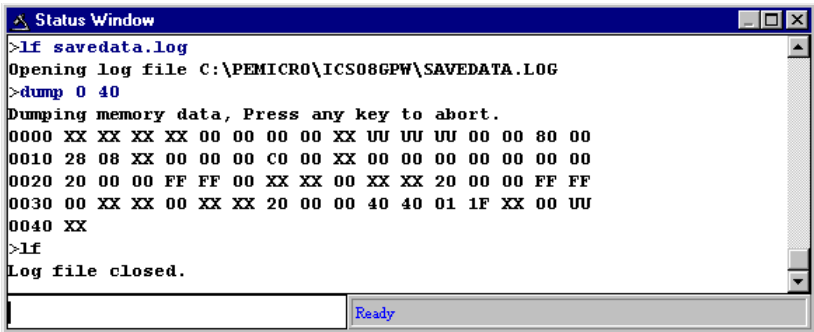

Figure 6-10. Results of Entering the LF Command in the Status Window
- Choose the **Start Logfile** option from the ICS08GPW file menu or enter the LF command in the Status window command line (**Figure 6-10**).